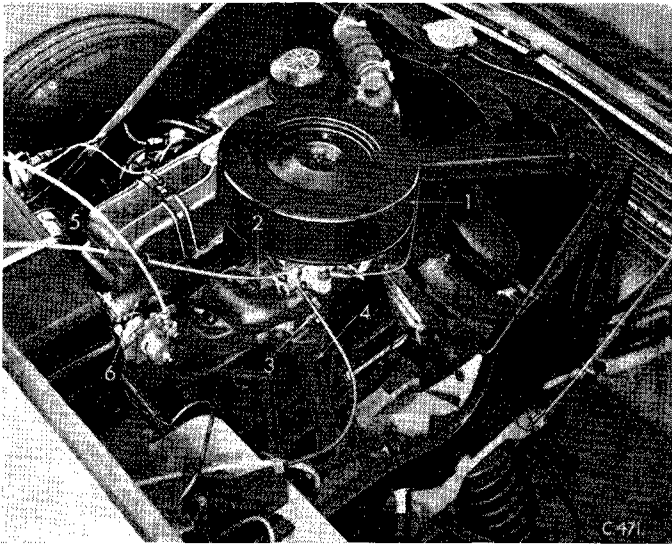

Fig. 10. R.H. view of engine
(Figs. 10 and 11)
Refer to Fig. 10 and disconnect: (R.H.S.)
(Figs. 10, 11, 12, 13 and 14)
- Exhaust pipe flange (4) and bracket to clutch housing (Fig. 10).
- Heater hoses (5 and 6) (Fig. 10)
- Carburettor choke and throttle controls (2 and 3) (Fig. 10).
- Air cleaner (1) (Fig. 10).